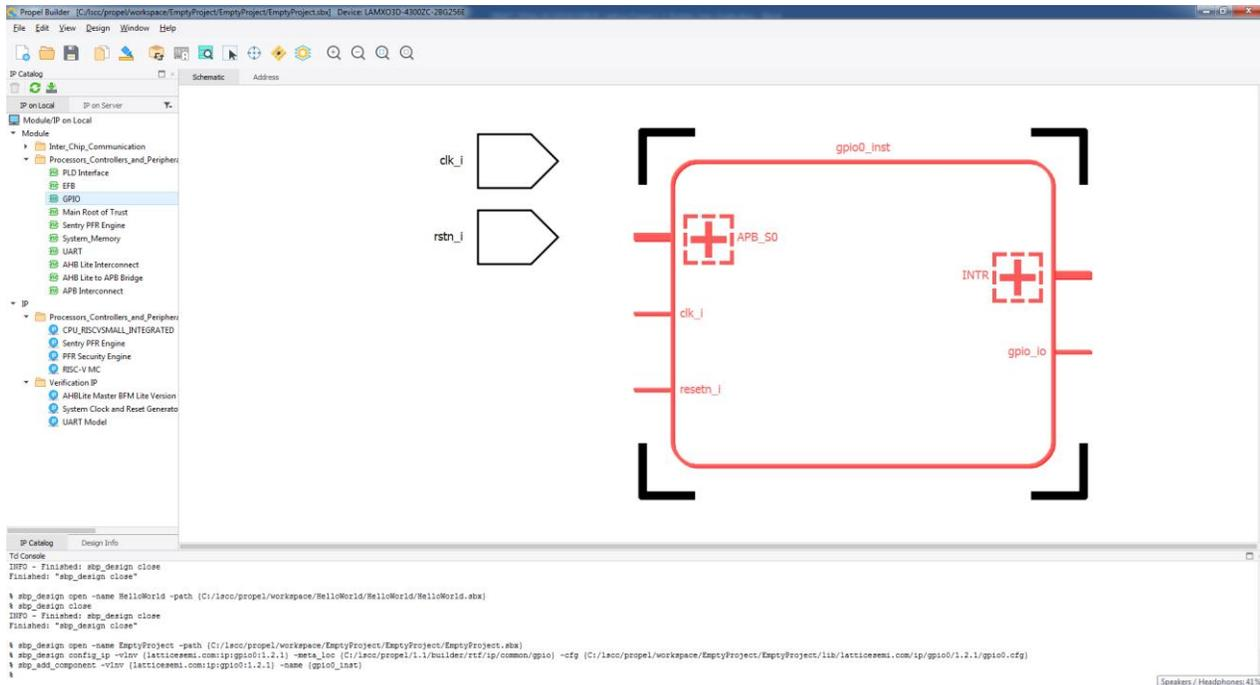

Figure 2.21. Select Object
- Click on the object in the Schematic view. The selected object turns to red (Figure 2.21).